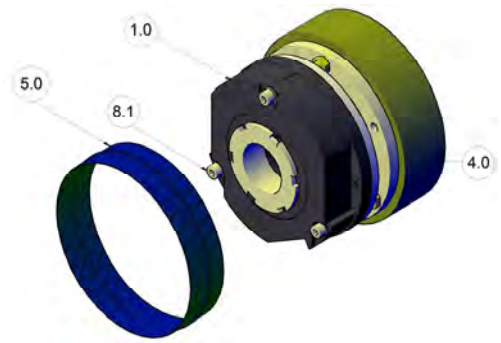

Figure13: Assembly of Rubber seal
4. Adjust the gap 'U' between armature plate (1.2) and hand release screw (6.3) as shown in the Figure 13. For 'U' values see rated data table, chapter 3.2.